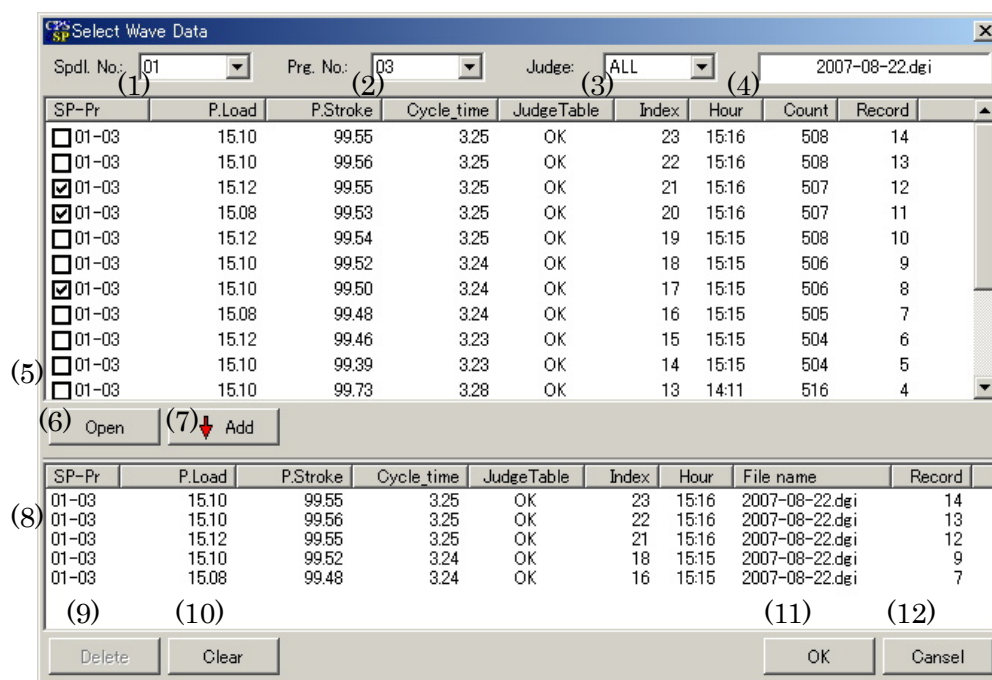

Fig. 7-4-6 Waveform file selection screen
2. Choose the waveform data used as the standard of a zone. Please refer to a figure 7-4-6 waveform file selection screen.